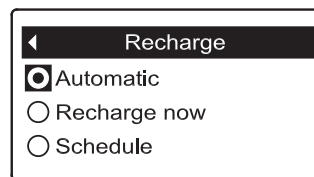

FIG. 61
4. Press the SELECT (○) button to display the Recharge menu (See Figure 61).